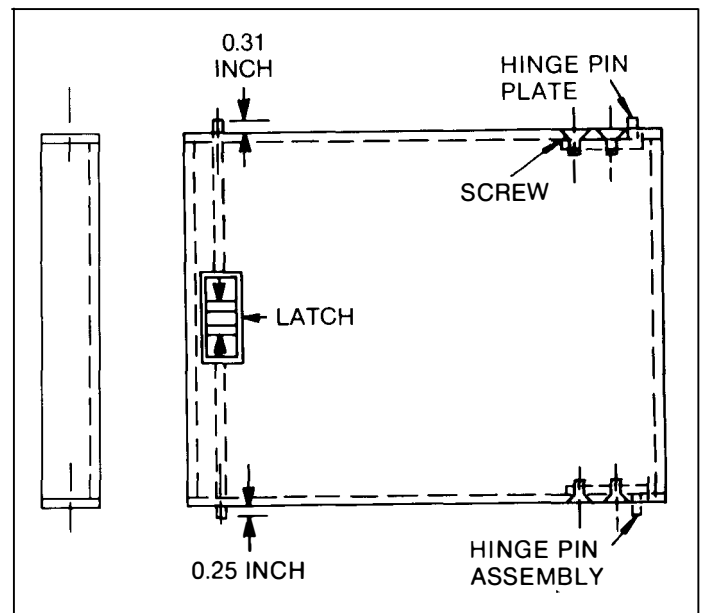

Fig. 7-3. Drawing showing front access details
The front access doors on all general AKD-8 Switchgear are hinged and equipped with a pinch-type latch, Fig. 7-3. To open the door, place your thumb and forefinger on the latch and squeeze.
Refer to Fig. 7-3 and remove or install the switchgear front doors.
2. Remove the two screws holding the top hinge pin plate to the inside of the door flange. Remove hinge. See Fig. 7-3.
1. Place lower hinge pin into hinge pin socket on switchgear. See Fig. 7-3.